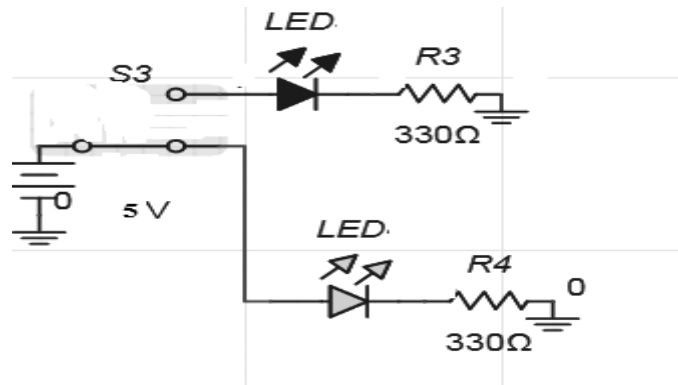
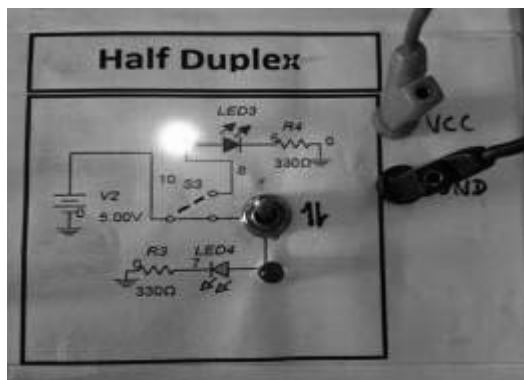
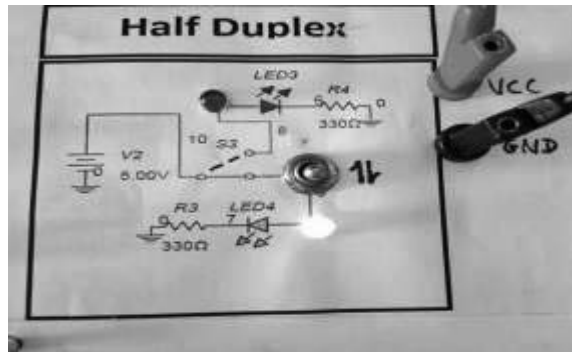

Fig 1.6 Circuit of Half duplex used in laboratory
Fig 1.7 Circuit diagram of Half duplex in forward direction
Fig 1.8 Circuit diagram of Half duplex in reverse direction
Sample circuit diagram (Fig 1.6)/ experimental setup.(Fig 1.7 and Fig 1.8)
1. Connect the circuit as shown in figure 1.6.